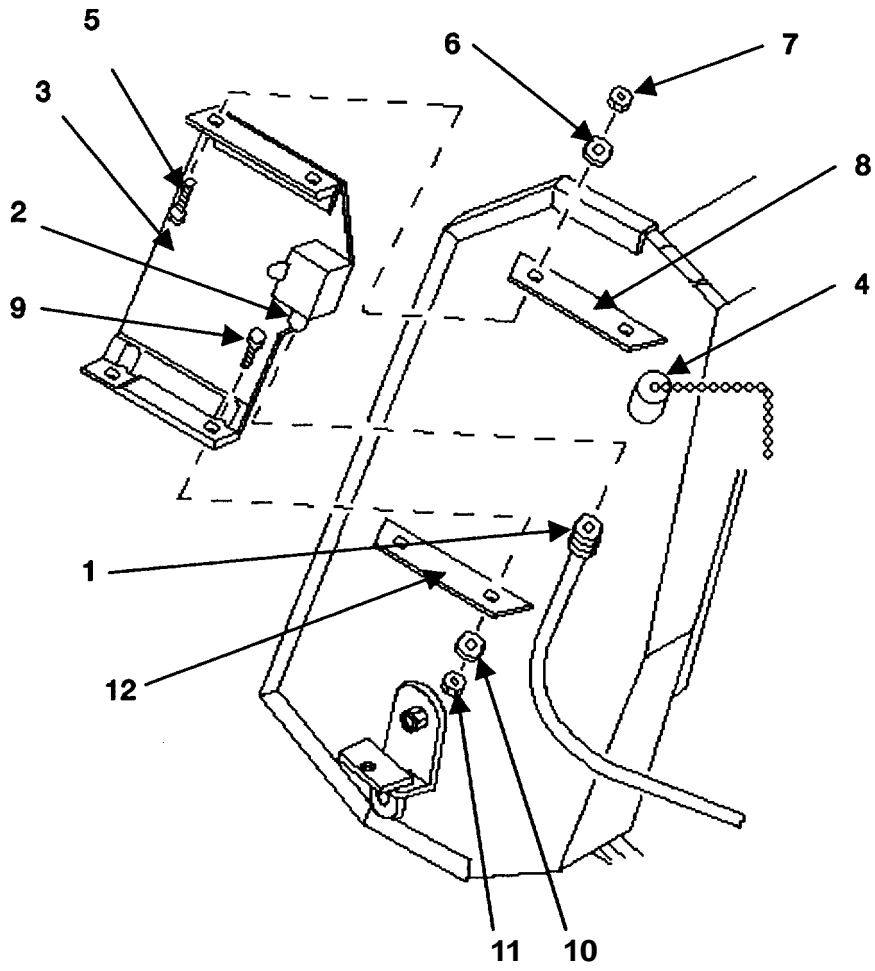

Figure 1
All callout references in steps (3) through (7) refer to Figure 1, page 6.
- (3) Disconnect connector (1) P993 (pilot) or P997 (CPG) from connector (2) (A148)J1 or (A147)J1 (CPG) on slider plate (3).
- (4) Screw electrical connector cover (4) onto connector P993/P997.
- (5) Remove and discard two screws (5), two washers (6) and two nuts (7) from upper bracket (8).
- (6) Remove and discard two screws (9), two washers (10) and two nuts (11) from lower bracket (12).
- (7) Remove M43 Mask Blower slider plate (3) from brackets.